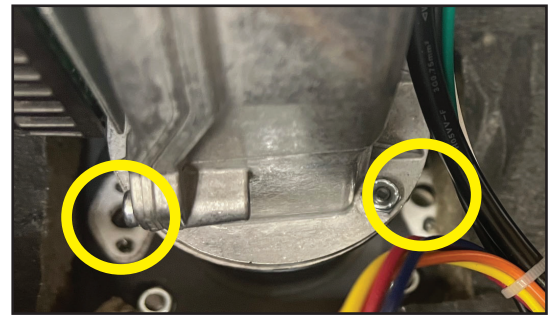

Fig. 43
11. Remove hot surface igniter gasket and clean the mating surfaces where the gasket will go in order to ensure a proper seal (Fig. 43).